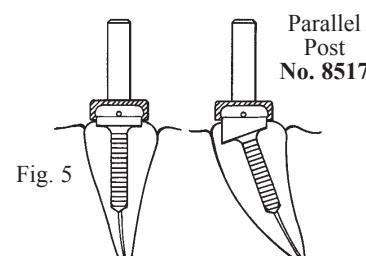

Fig. 5
8. Using the Locator Parallel Post (Zest order No. 8517) as a handle, place a 0 Degree Female into each of the completed preparations to visually approve the proper fit and the parallel alignment of the multiple attachments. If the alignment of any of the attachments can be improved, select the most suitable angled female (10 or 20 degrees) and rotate it in the preparation to determine its position of optimum parallelism. (Fig.5)